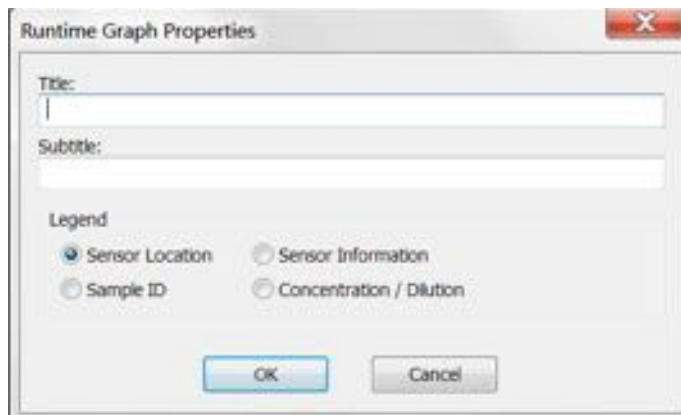

Figure 6-60: Selecting a Runtime Binding Chart Legend
2. In the **Runtime Graph Properties** dialog box (see Figure 6-60), select one of the following legends: